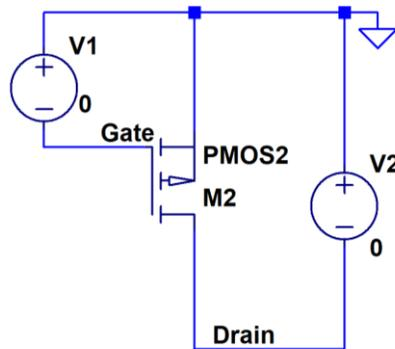

Fig. 3. PMOS transistor CS characteristics test circuit.
3. Repeat step 2 for a PMOS transistor model. You will have to redraw the circuit so V1's polarity is  $+V_{SG}$  and V2's polarity is  $+V_{SD}$ . Make sure the transistor's source terminal is connected to ground. See Fig. 3.